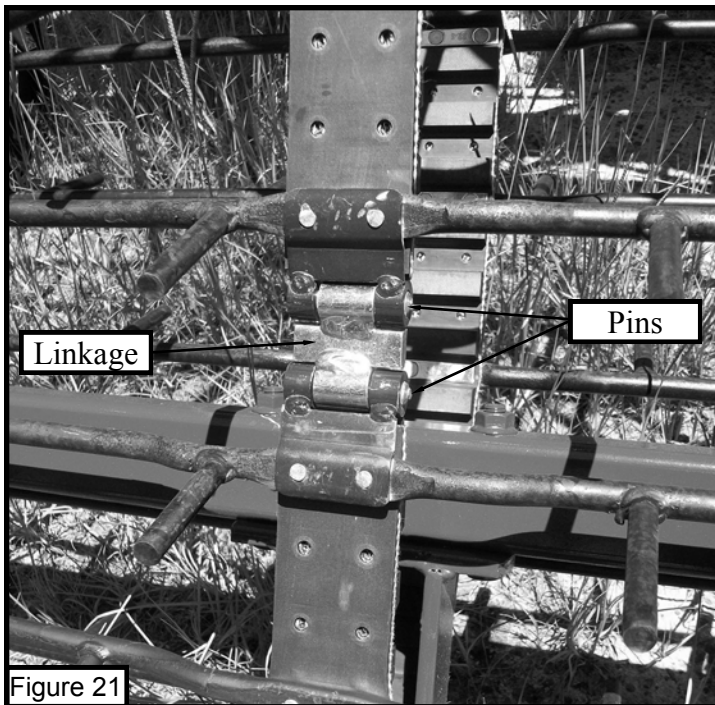

Figure 21
6. Check the conveyor belt linkage for wear and proper alignment before starting up inverter each day. If linkage pin comes out of hole, loosen belt tension and pull each end of belt to realign hole so pin can be reinserted. If pin is bent or worn replacement of pin and linkage may be required before operating the machine. Refer to figure 21.